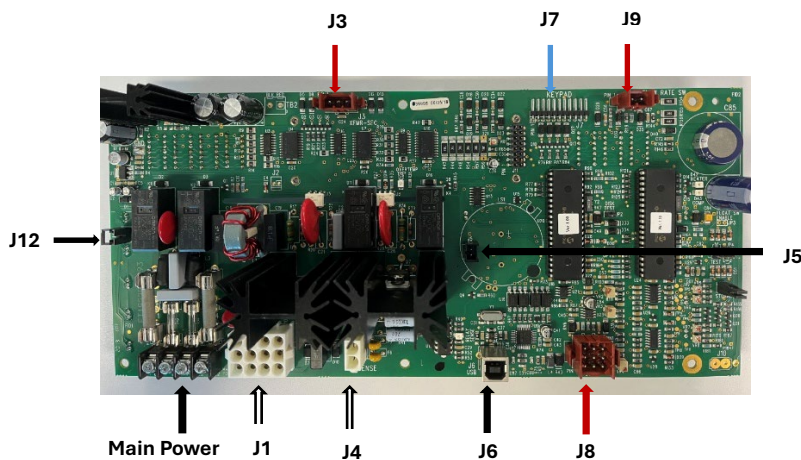

Fig. 4 – Board Overview
2. Locate and disconnect the connectors from the microprocessor board by pressing the locking tabs as required. See Fig. 4.
5. Connect the membrane ribbon cable to the 11-pin connector at J7 position (see Fig. 4).